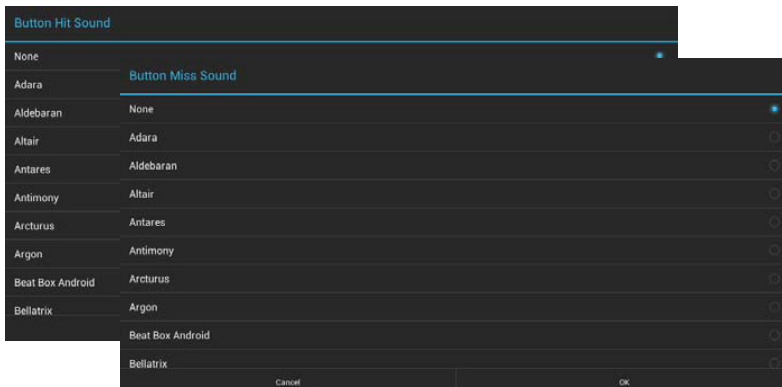

**FIG. 21** Music Volume control and System Volumes control
1. In the *Sound* page, select the Volume icon (FIG. 20) to open the *Music Volumes* control window (FIG. 21 on page 30):
3. Press the icon on the right side of the Music Volume control to open the *System Volumes* control. Use these volume controls to adjust all of the available volume controls on the panel (FIG. 21):